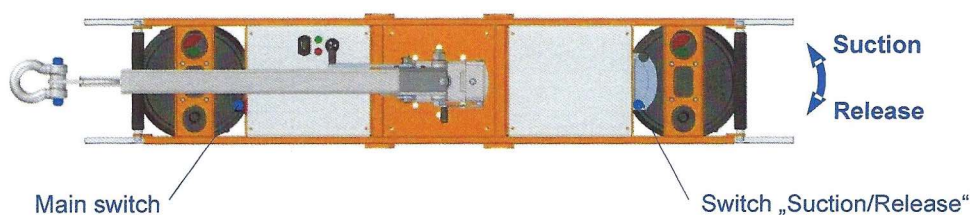

Fig. 7: Switch „Suction/Release“
The OKTOPUS® GLASS-Jack GL-LN 600 is operated on the device according to fig. 7.
To avoid unintended load rotations, make sure that the unlocking lever “Rotate” (see fig. 7) is latched. The unlocking lever “Tilting” has to be released and the crane arm to be upright!
- ⇒ Now the suction of the construction element is performed. Therefore slightly lift the switch “Suction/Release” (see fig. 7), and then shift it towards “Suction” until it latches (see also pt. 3.5 “Start-up”).
- ⇒ Now the suction of the construction element is performed. Therefor slightly lift the switch "Suction/Release" (see fig. 7), and then shift it towards "Suction" until it latches (also see pt. 3.5 "Startup").